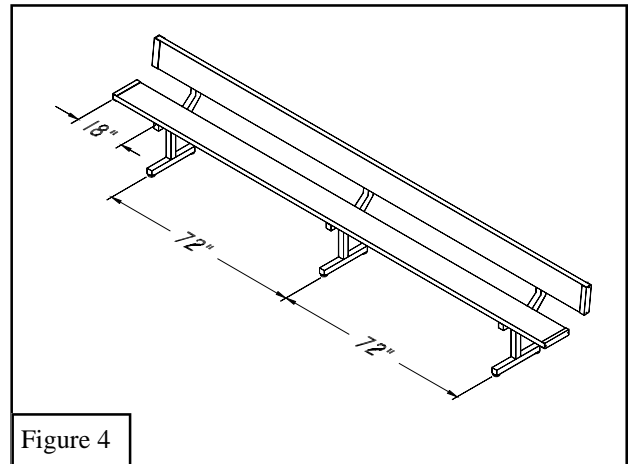

Figure 4
2. Place the first *Leg Assembly (B)* in the center of the *15' Aluminum Seats (A)*. The remaining *Leg Assemblies (B)* should be placed 18" from each end. See Figure 4.